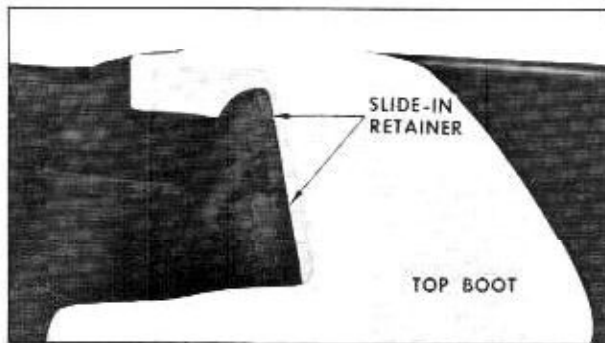

Fig. 15-72 Top Boot Assembly
3. Engage remaining boot fasteners to studs on molding and rear quarter trim. (Fig. 15-72)